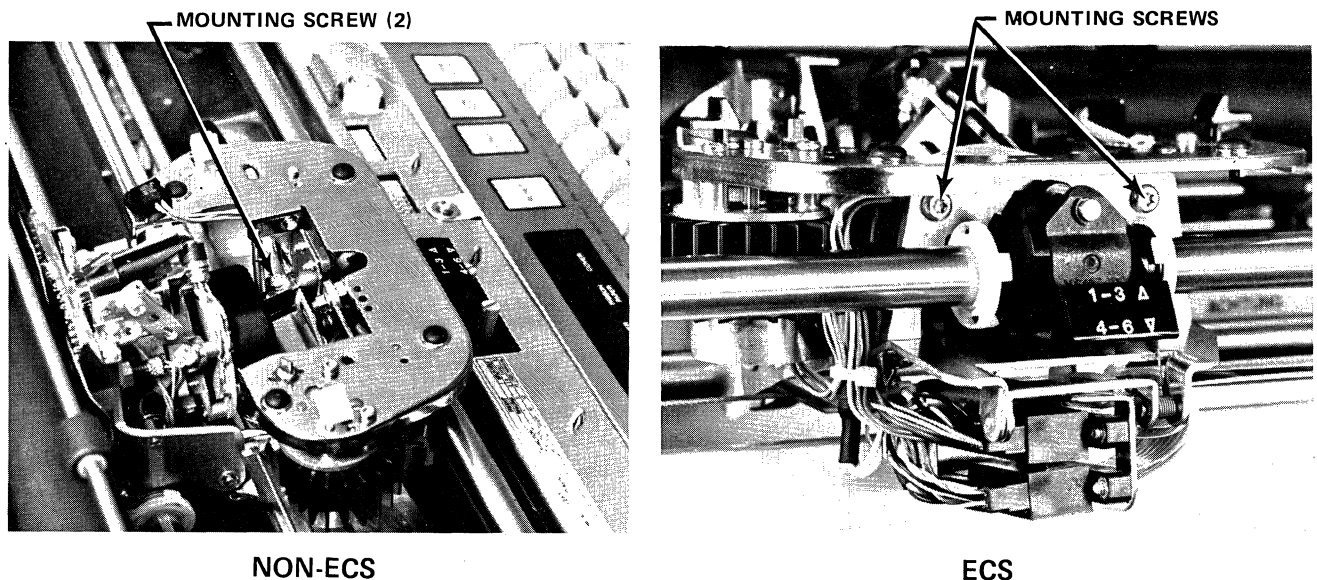

Figure 4-22. RIBBON DECK MOUNTING SCREWS
- 6) Remove the two TORX screws (Fig. 4-22) holding the ribbon deck to the carriage assembly.